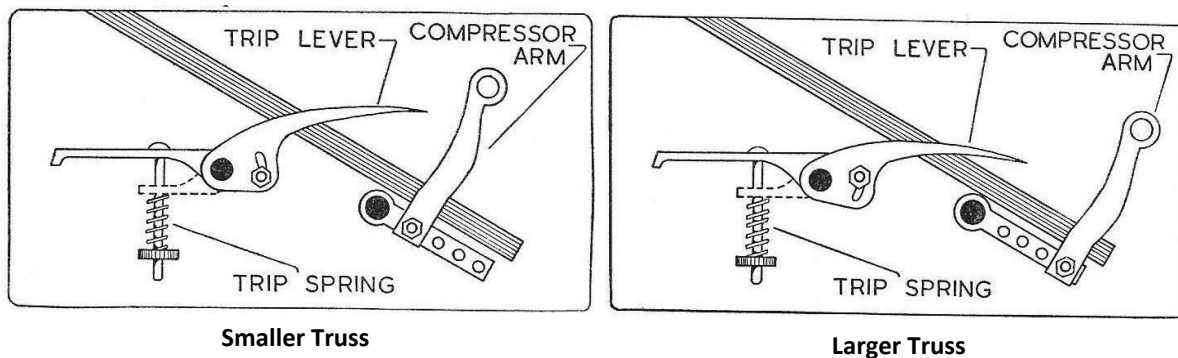

Fig.3.2 Trusser settings to adjust truss size – Smaller truss (*left*) and larger truss (*right*)
This depends on the machine make/model, but usually by two spring-loaded, pivoting Trip Levers or 'Paddles' which protrude through the trusser's Deck in the area where the truss will be formed (*see Fig.3.2*). The accumulating crop pushes down on the levers against (*adjustable*) spring pressure until the Knotter Engagement Clutch is tripped. Some machines (*e.g. certain Hornsby models*) also sense the force exerted by the forming truss on to certain of the Packers, via spring-loaded mechanism. If this exceeds a given (*adjustable*) level, the Knotters are also tripped.
To adjust truss size on such machines, the Compressor Arms can be moved closer to / further away from the Packers (*Fig.3.2*). Similarly, the free end of the Trip Levers/Paddles can be raised or lowered to increase/decrease their protrusion above the deck surface. However, truss density (*band tightness*) is varied by adjusting the knotter trip mechanism spring tension (**N.B. NOT** by adjusting the tension in the twine supply to the Needles / Knotters).
- **For a Smaller Truss** - (*Fig.3.2 (left)*):
- **For a Larger Truss** - (*Fig.3.2 (right)*):